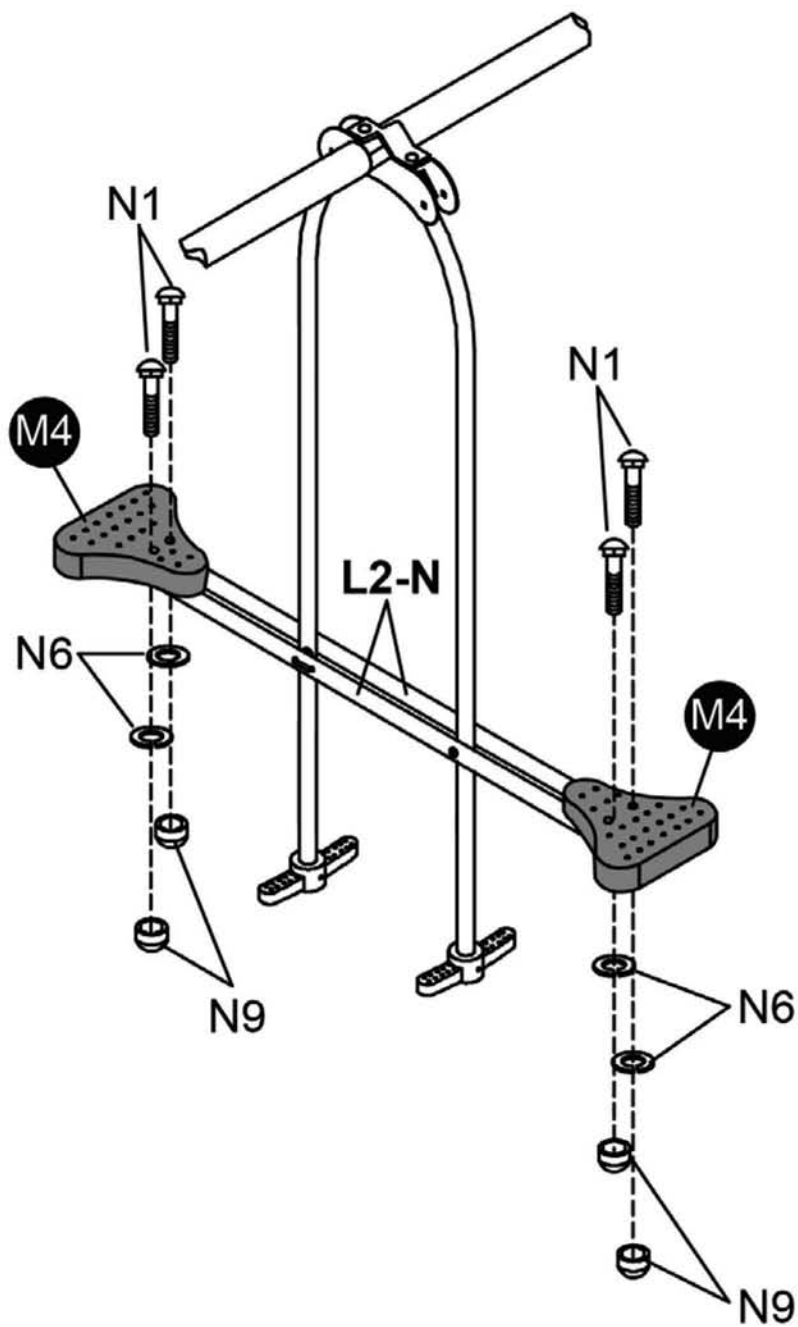

FIGURE 15
- Attach M4 to L2-N and secure with N1, N6 and N9 as shown in FIGURE 15.